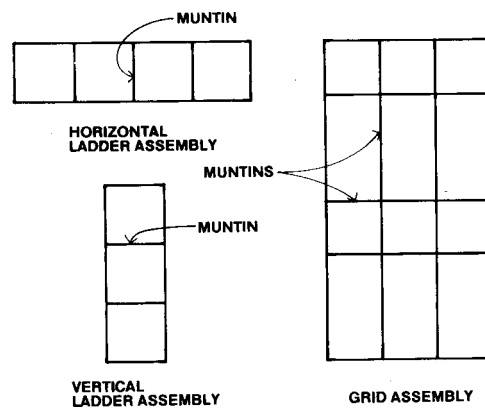

FIG. 1 Gasket Systems
4.8 Installation of Multiple-Opening Gasket Systems (See Figs. 1 and 2):